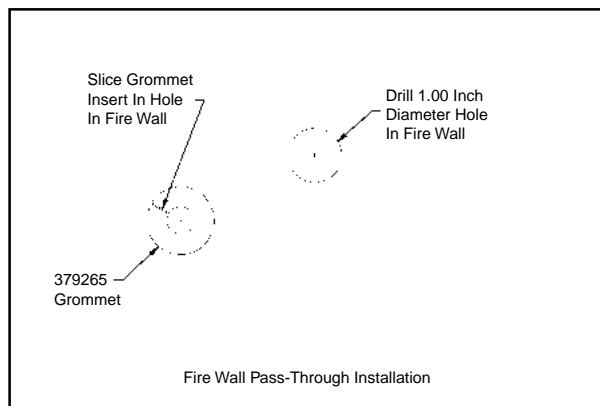

Figure15
5. To install the grommet in the drilled hole, slice the grommet and place it over the wires. **NOTE:** The grommet is included in the installation kit. Position the wires in the center of the grommet and insert it in the drilled hole (**Figure 15**).